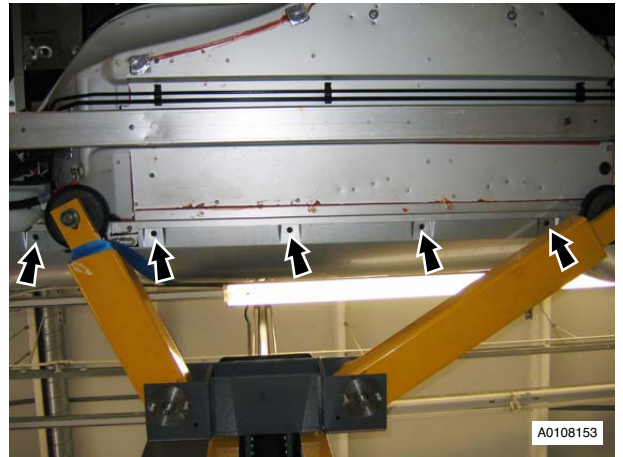

Figure 3
7. Remove screws (x5) sill to body (see Figure 3).